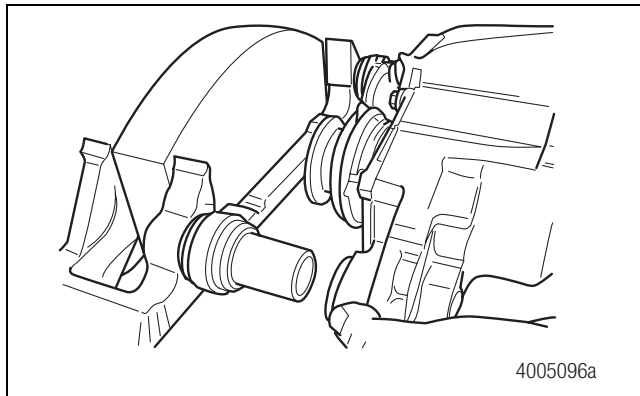

Figure 5.48
2. Carefully slide the housing assembly onto the slide pins. Be careful not to damage the slide pin boots when you install the housing assembly onto the slide pins. Figure 5.48.